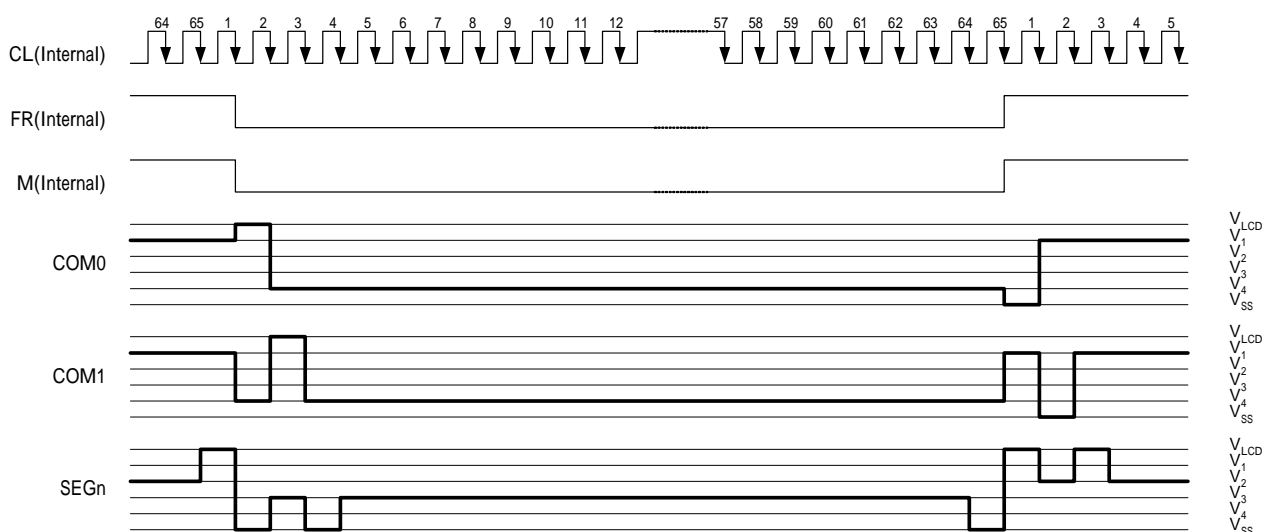

Figure 15 2-frame AC Driving Waveform (Duty Ratio: 1/65)
This circuit generates some signals to be used for displaying LCD. The display clock, CL (internal), generated by oscillation clock, generates the clock for the line counter and the signal for the display data latch. The line address of on-chip RAM is generated in synchronization with the display clock and the display data latch circuit latches the 102-bit display data in synchronization with the display clock. The display data, which is read to the LCD driver, is completely independent of the access to the display data RAM from the microprocessor. The display clock generates an LCD AC signal (M) which enables the LCD driver to make a AC drive waveform, and also generates an internal common timing signal and start signal to the common driver. The frame signal or the line signal changes the M by setting internal instruction. Driving waveform and internal timing signal are shown in Figure 15.